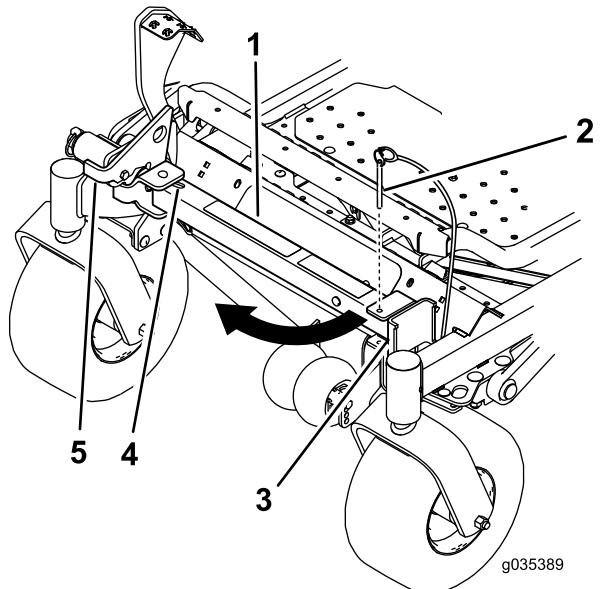
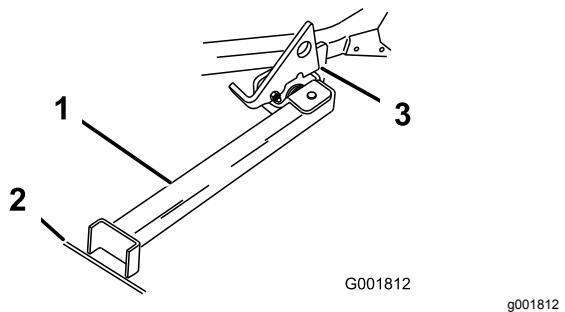

Figure 44
Figure 45
2. Remove the bracket pin (Figure 44).
4. Swing the stand foot out front and slide it toward machine, into the bottom of slot (Figure 44 and Figure 45).
5. Set the foot of the stand on the ground and rest the latch on the pivot tab (Figure 45).
Note: For best results, place the foot of the stand into the seams in sidewalks or into the turf (Figure 45).
7. Drive the machine onto the stand. Stop when the latch drops over the tab into the locked position (Figure 45).
5. Return the stand to its rest position (Figure 44).